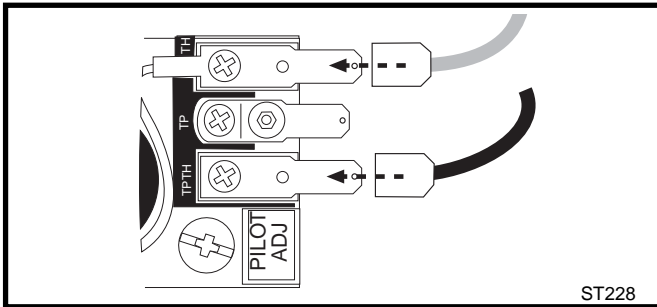

Fig. 41 Attach switch wires to valve.
3. Attach wires to valve terminals. (Fig. 41)
2. Connect the thermostat wires to the valve. (Fig. 41)